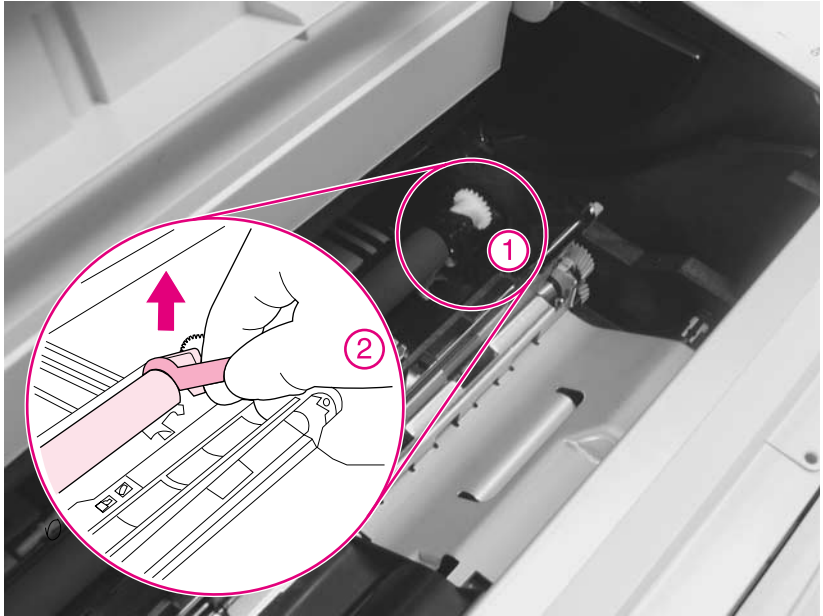

Figure 3 Disengaging the transfer roller (right side)
- 3 The transfer roller is held on the right side by a hinged clip (Figure 3, item 1). Use the transfer roller removal tool to hook the metal shaft on the left side of this clip (detail 2), and then lift the transfer roller straight up to free the transfer roller from the hinged clip.